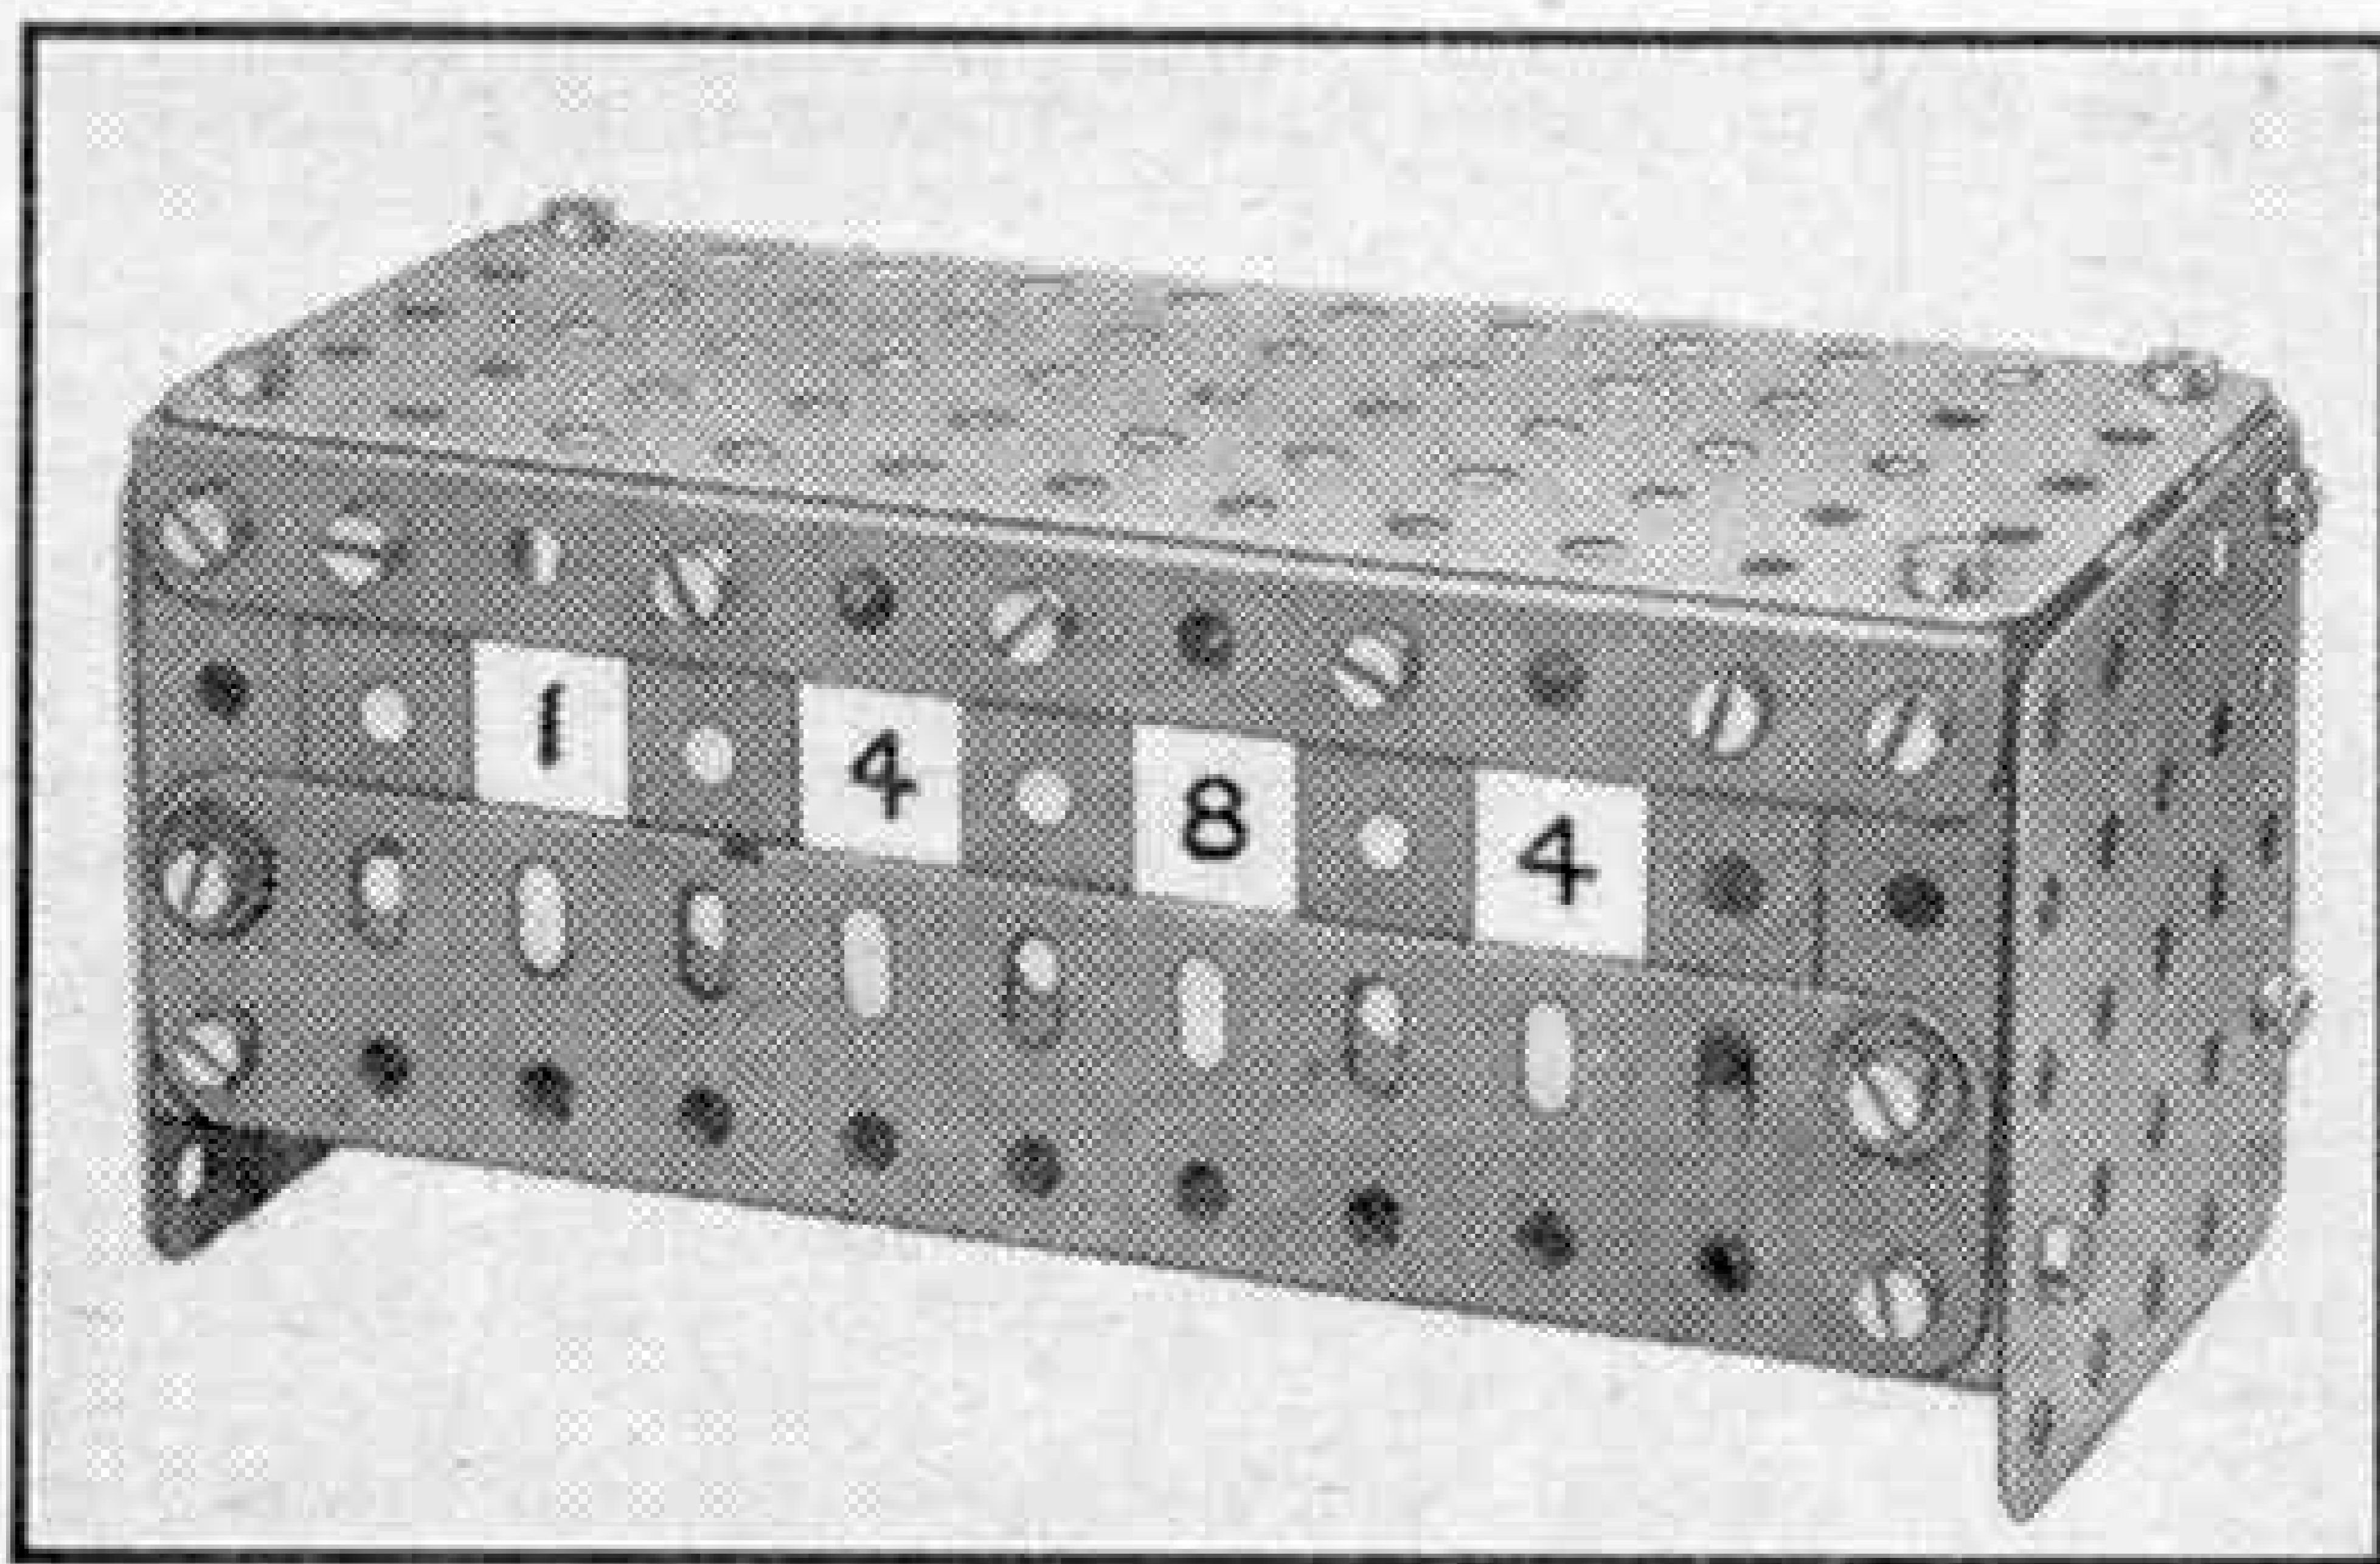

Fig. 1. A revolution counter that works accurately. It is made entirely from Meccano parts.
T. Harris, Blackpool, has sent me details of a rather unusual mechanism he designed for use in a coil winding machine he built recently. The mechanism is a registering device for counting the number of turns of wire wound on each coil, and it is illustrated in Fig. 1.
The single units shaft is fitted with a Sprocket Wheel, and it should be driven at $1/10$ th the speed of the machine driving shaft. A simple cover can be fitted to the mechanism as shown in Fig. 1, so that only one number at a time appears in the centre of each indicating window.